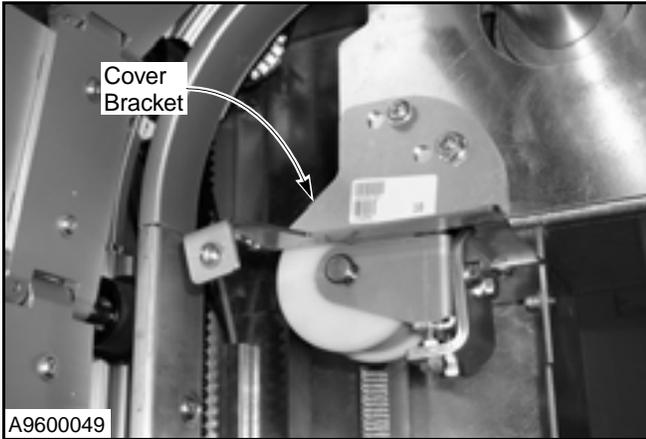

Figure 89
3. Mount the left- and right-hand cover brackets to the side columns. These brackets are located in the small parts carton. (See Figure 89.)